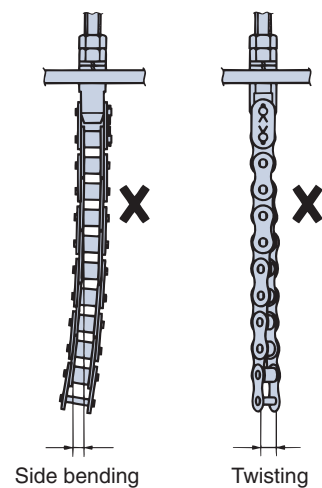

Fig. 29 Twisting of the roller chain
- 1) This should be carried out with the same requirements as for ordinary transmission shown in item 6.3.
- 2) It is important to check the lubrication of the connecting parts between the roller chain and end brackets where end brackets are installed, as well as the parts where the roller chain winds around the sprocket. (Refer to item 3.2 on page 192.)
- 4) Inspect for twisting and side bending of the roller chain. If partial twisting or side bending of the chain occurs, the complete roller chain should be replaced. (Fig. 29)